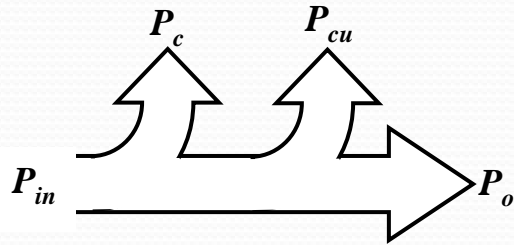

Figure 4.24 Power flow in transformers
- The power flow diagram for a transformer is shown in Figure 4.24 and the input power can be expressed as: